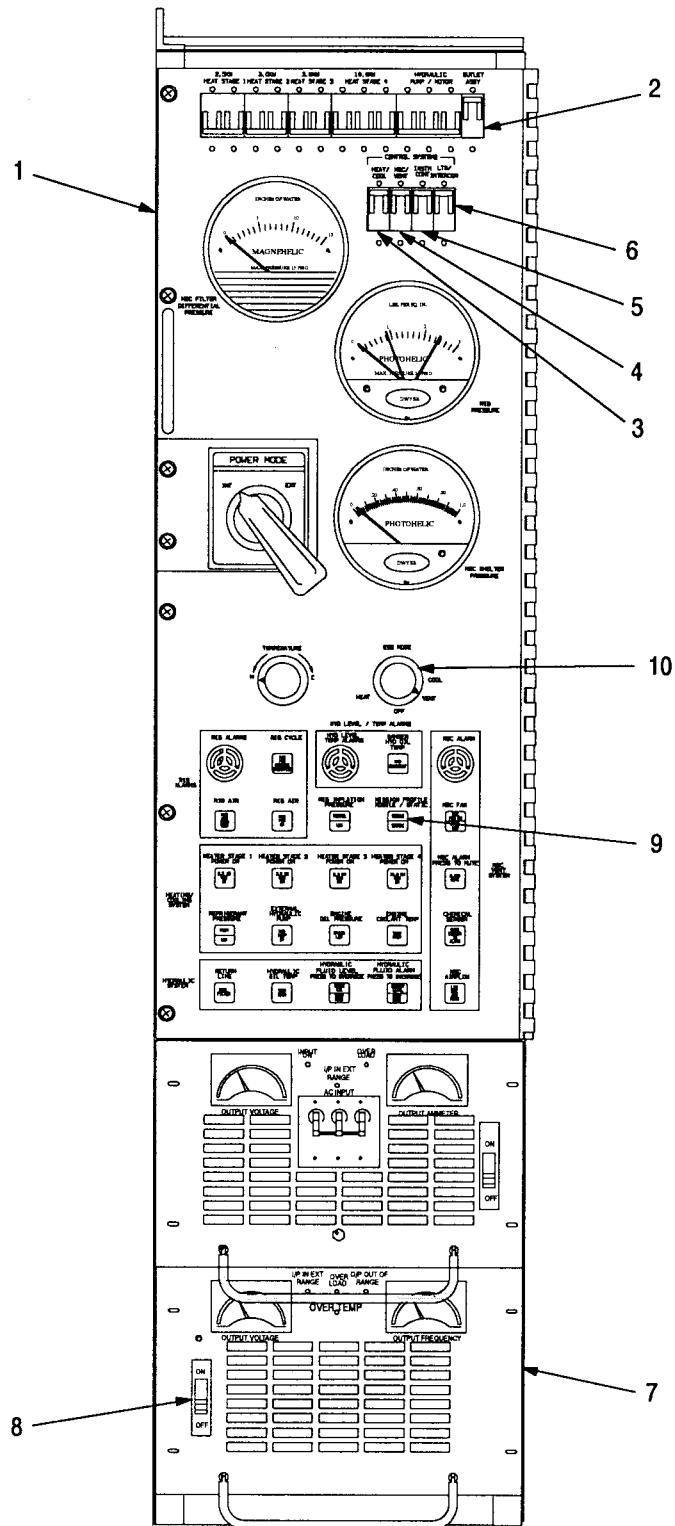

Figure 2-35. Internal Power Control Settings - NBC Conditions
- (1) Listen for EPG engagement, indicated by a change in ECV engine speed. After EPG is engaged, perform the following steps.
- (2) On rear control panel (1, figure 2-35), ensure the following circuit breakers are ON:
- OUTLET ASSY (2)
- HEAT/COOL (3)
- NBC/VENT (4)
- INSTM CONT (5)
- LTG/INTERCOM (6).
- (3) Set inverter (7) power switch (8) to ON.